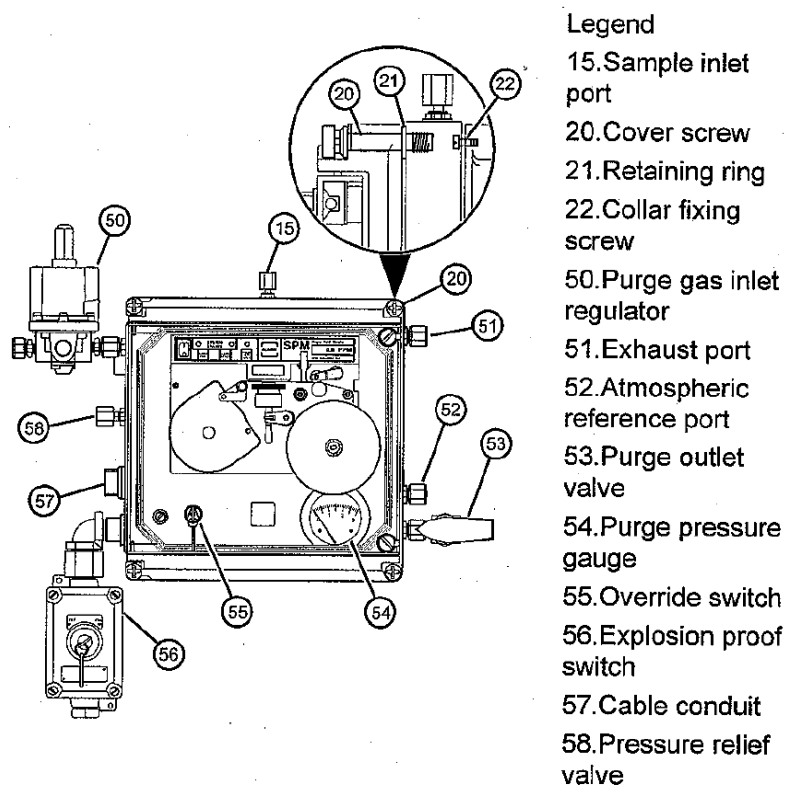

Figure 1
1. Separate cover/collar from body. Refer to Figure 1 below.